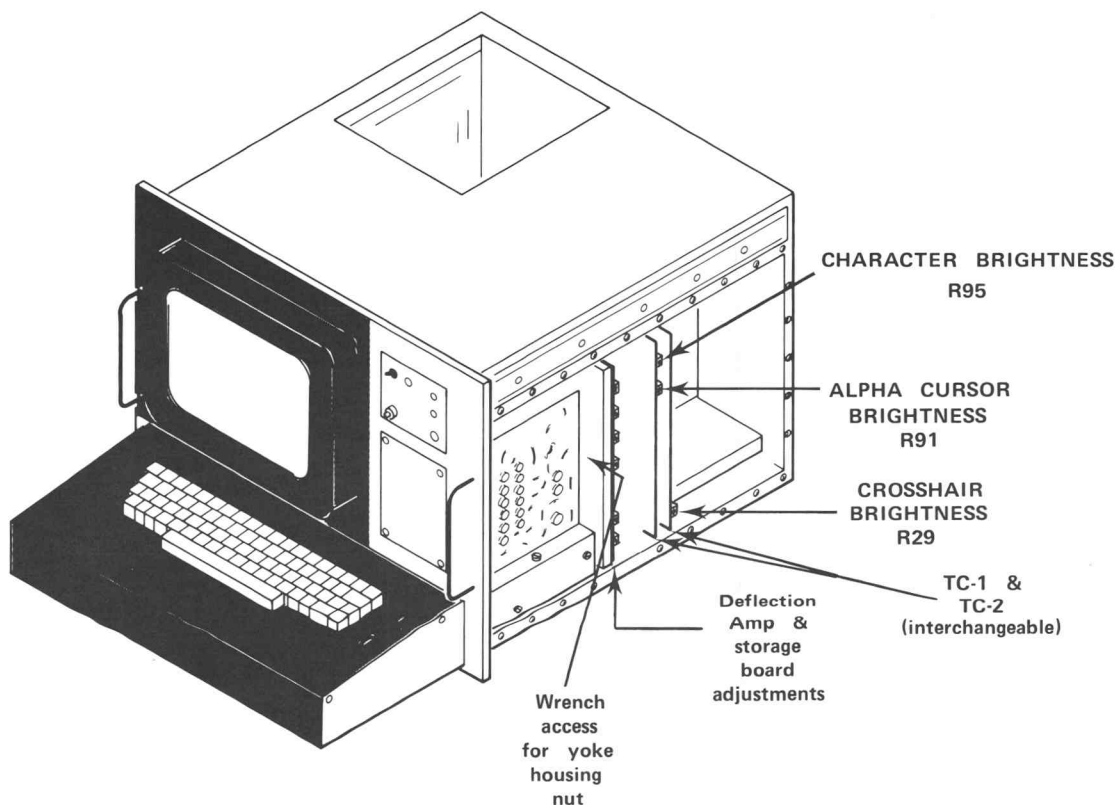
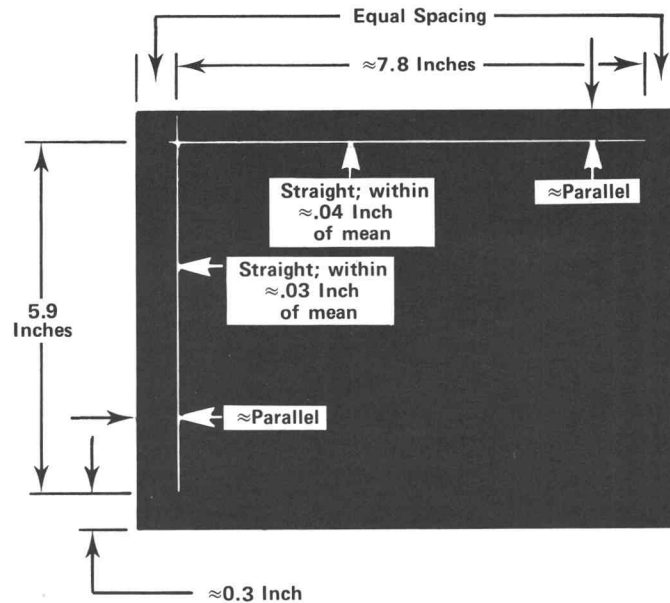

Fig. 4-7. Circuit card and adjustment information.
Fig. 4-9. Display positioning, using crosshair cursor.
- c. Note the edges of the display area after the erase cycle has been completed. If the edges become obviously brighter than the rest of the display area (fade-positive, Fig. 4-12), turn the OP LEVEL (on Deflection Amp & Storage board, Fig. 4-7) fully counterclockwise. (OP LEVEL will be adjusted properly in a later step.)
- d. At TC-1, turn R91, Alpha Cursor Brightness, fully clockwise. (See Fig. 4-7 for location.)
g. Press PAGE. The cursor should move to the top-left corner of the display. If the cursor was viewable in step f, and now has moved entirely out of the viewing area turn X POS fully clockwise and Y POS fully counterclockwise to bring the cursor back into view. X POS and Y POS are located on the top of the Deflection Amp & Storage board, whose location is shown in Fig. 4-7.
i. At TC-1, adjust R91, Alpha Cursor Brightness (Fig. 4-7) until the cursor is at minimum brightness consistent with good viewing.
c. Enter ESC and CTRL Z and place the keyboard thumbwheels near midrange. A crosshair cursor should appear on the display. If it does not, or if it is excessively bright or dim, adjust R29, Crosshair Brightness (on TC-2, Fig. 4-7) as necessary to provide a display of minimum intensity, consistent with good viewing. The crosshair should not be so bright that it stores; move the thumbwheels to check for storing.
d. Enter PAGE and ESC and CTRL Z to erase the display and regain the crosshair cursor. Place the horizontal and vertical thumbwheels near mid-position; then perform a rough check of the display as follows. If the display appears approximately correct, continue with the procedure without adjusting anything at this point. If any parameters are grossly in error, perform a coarse adjustment of any or all of the listed adjustments to approximately obtain described results before proceeding. Adjustments are located on the Deflection Amp & Storage Board, whose location is shown in Fig. 4-7.
Access for the special 11/32 inch open-end wrench is provided between the LV Power Supply board and the Deflection Amp & Storage board (Fig. 4-7). However because of the proximity of voltage-laden transistor cases, the Terminal should be shut off prior to loosening the Yoke Housing nuts.
f. Check/Adjust X GAIN and X POS. Turn the Terminal on and press PAGE and ESC CTRL Z. The crosshair cursor's vertical line should start at the bottom horizontal line and extend through the top edge of the display area. If it doesn't, adjust Y GAIN and/or Y POS on the Deflection Amp & Storage Board (Fig. 4-7) to achieve those results.
i. Check/Adjust vertical line straightness. Move the horizontal thumbwheel to position the cursor's vertical line to fall within the left two vertical lines. Shift the graticule as necessary for optimum alignment. All points on the line should fall within the confines of the two lines (except that the line will extend up beyond the graticule markings). Adjust X GEOM (on Deflection Amp & Storage board, Fig. 4-7) as necessary to achieve the described results. Move the vertical line to the right side and repeat the check. It may again be necessary to move the graticule slightly. If necessary, compromise the adjustment to achieve specified results on both sides.
j. Check/Adjust horizontal line straightness. Relocate the graticule to its reference position. Move the horizontal line to fall between the two closely-spaced lines near the top of the graticule. Rotate the graticule slightly for optimum alignment if the line is tilted slightly. All points on the cursor's horizontal line should fall within the confines of the two lines. Adjust the Y GEOM (Deflection Amp & Storage board, Fig. 4-7) as necessary to achieve the described results. Then move the horizontal line to the bottom of the display and repeat the check, again moving the graticule as necessary. Compromise the Y GEOM adjustment to achieve the desired results at both top and bottom.
b. Enter ESC and CTRL Z and place the keyboard thumbwheels near midrange. A crosshair cursor should appear on the display. If it does not, or if it is excessively bright, adjust R29, Crosshair Brightness, on TC-2 (Fig. 4-7) as necessary to provide a display of minimum intensity, consistent with good viewing. The crosshair should not be so bright that it stores; move the thumbwheels to check for storing.
e. Check display positioning against the following requirements (see Fig. 4-9). Go to step f if any discrepancies are found.
f. If lines are excessively long, set X GAIN and/or Y GAIN fully counterclockwise. (These, and other display adjustments are located on the top of the Deflection Amp & Storage board. See Fig. 4-7. Use Fig. 4-9 as a display reference.)
(1) Adjust X POS for approximate left-right centering of horizontal line.
(2) Adjust Y POS to approximately center the vertical line segment described by its lower end and the point of intercept with the horizontal line (vertical thumbwheel at upper limit).
Access for the special 11/32 inch wrench is provided between the LV Power Supply board and the Deflection Amp and Storage board (Fig. 4-7). However, because of the proximity of voltage-laden transistor cases, the Terminal should be shut off prior to loosening or tightening the yoke housing nuts. Enter PAGE and ESC CTRL Z to regain the crosshair cursor.
(4) Adjust X GEOM for approximate straightness of the vertical line; vertical line to be positioned as close to the left edge of the display area as possible by using the horizontal thumbwheel.
(5) Adjust Y GEOM for approximate straightness of the horizontal line, with the vertical thumbwheel at its upper limit.
(6) Adjust X GAIN for a horizontal line length of approximately 7.8 inches.
(7) Readjust X POS for approximate centering of the horizontal line.
(8) Adjust Y GAIN for approximately 5.9 inches between the bottom of the vertical line and the horizontal line intercept point. (Vertical potentiometer at upper limit.)
(9) Readjust Y POS to approximately center the area described in (8).
(10) Adjust X GEOM for optimum straightness of the vertical line.
(11) Adjust Y GEOM for optimum straightness of the horizontal line.
(12) Press PAGE and then enter four Zs. Check that the Zs are clearly noticeable as writing occurs. The Zs might or might not store at this time, depending on the position of the OP LEVEL adjustment. If the Zs are not clearly noticeable during writing, adjust R95, Character Brightness, on TC-1 (Fig. 4-7) and repeat the check.
(13) If the Zs do not store, gradually increase the OP LEVEL setting (Top of Deflection Amp & Storage board, (Fig. 4-7) while entering Zs until they do store. Do not set OP LEVEL any higher than necessary.
(14) Press PAGE and again enter four Zs.
(15) Enter ESC and CTRL Z. The Zs should remain and the crosshair cursor should appear.
(16) Using the horizontal thumbwheel, place the vertical line so that it passes through a Z.
(17) Check vertical gain. The distance from the bottom of the vertical line to the top of a Z should be approximately 5.9 inches. If it is not, adjust Y GAIN to compensate for the error. (Adjust the bottom of the vertical line one-half of the desired total correction. An equal amount of correction will occur at the top of the line.) Then repeat steps (14), (15), and (17).